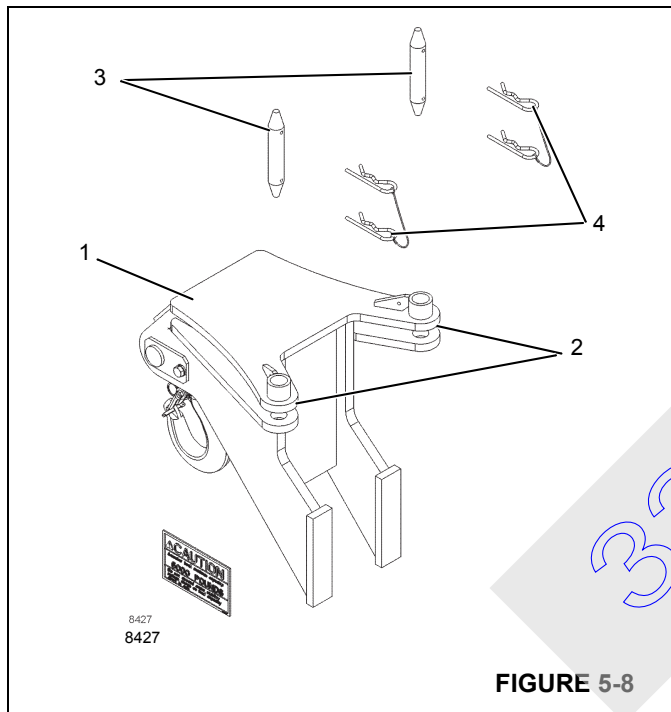

FIGURE 5-8
1. Using a suitable lifting device raise the searcher hook (1, Figure 5-8) in front of the boom nose and align the mounting tabs (2) with the lugs on the boom nose.
2. Install the mounting pins (3) and secure with the retaining clips (4).